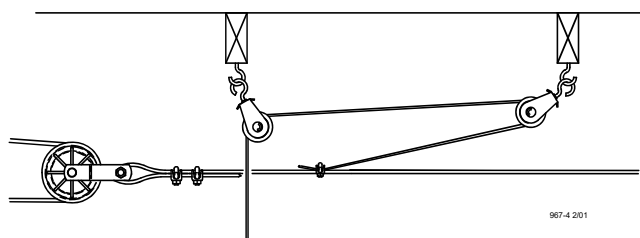

Figure 17. "Throwback" cable arrangement
3. Allow enough cable length for installation of the Adjustment Leveler. Sufficient cable is included to provide "throwbacks" on drops located beneath and near the winch. **Figure 17** shows a "throwback" cable arrangement.